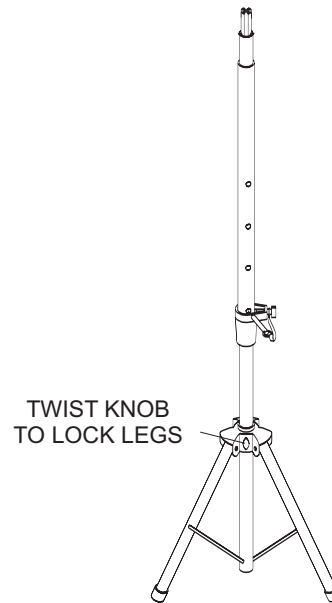

Figure 17. MBT Tripod Adjustments
1. To secure the legs in place, loosen the knob (see Figure 17), pull the legs out and tighten the knob.